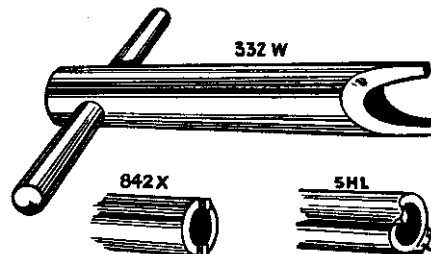

Fig. 9.—Axial Type Starter Dismantling Tools
Tools To facilitate dismantling, the tools shown in Fig. 9 may be obtained direct from C.A.V., or their agents. The tools are numbered and respective applications are referred to in the following text.
- (a) To remove armature spring and plunger, undo nut G1 by means of tool No. 5HL Fig. 9 and withdraw the plunger.